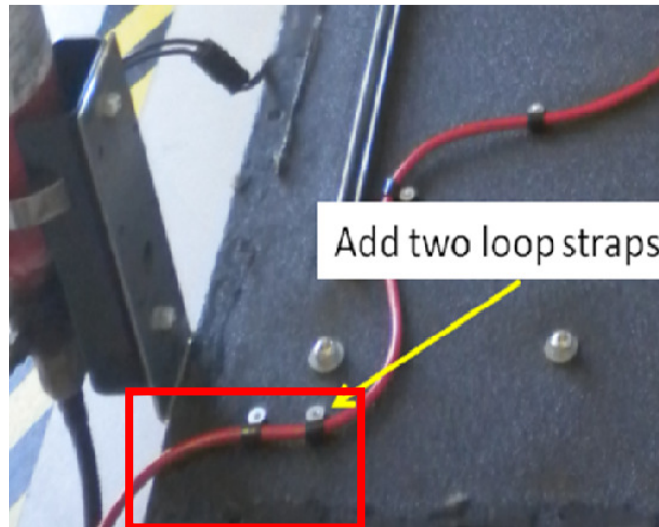

Fig 13 – Fire suppression clamping
- p. Using the supplied clamps (**NFI PN 6350363**), mark their location per Fig 13 and drill holes using a 1/8" drill bit. Secure with two 1/8" aluminum rivets (**NFI PN 60R02005**) and two #6 flat washers (**NFI PN 10W96000**). Ensure a small amount of silicone (**NFI PN 401722**) is placed over the rivets to ensure a water tight seal.